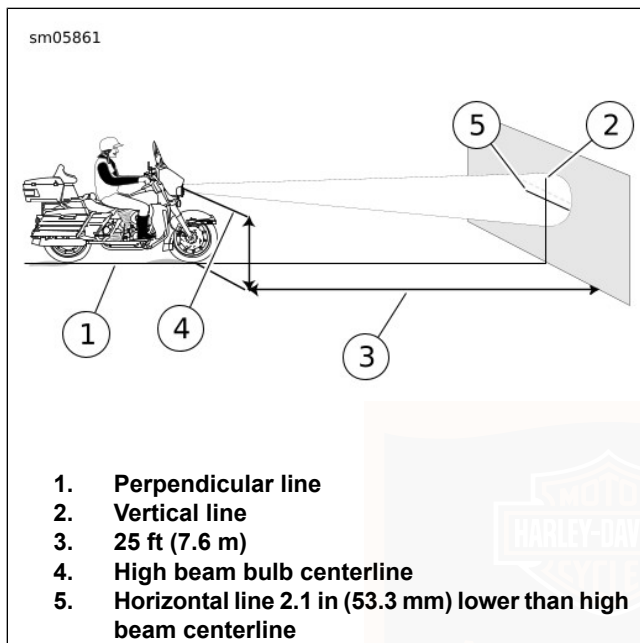

Figure 90. Headlamp Alignment: Quartz Halogen Type
4. See Figure 90. Park the motorcycle on a line (1) perpendicular to the wall.
6. Draw a vertical centerline (2) on the wall aligned with line (1).
7. With the motorcycle loaded, point the front wheel straight forward at wall. Measure the distance (4) from the floor to the bulb centerline:
8. Draw a horizontal line (5) through the vertical line:
- a. **Quartz halogen:** See Figure 90. 53.3 mm (2.1 in) lower than the measured distance.
- c. **LED, frame-mounted fairing:** See Figure 90. 53.3 mm (2.1 in) lower than the measured distance.
- a. **Quartz halogen:** See Figure 90. Hot spot centered on mark with headlamp set to **high beam**.